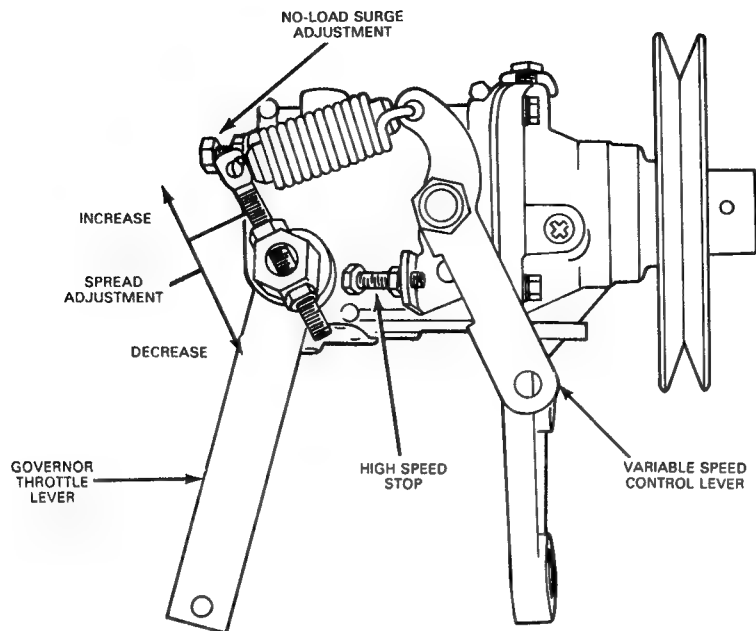

FIG. 2 Throttle Control Rod
2. Check the gap between the carburetor throttle shaft lever and its maximum open position stop (Figure 2). It should be 1/32 to 1/16 inch wide.